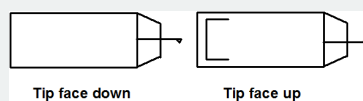

Figure 9.2.8 Schematic views of the AFM tip.
1. Mount a tip using the appropriate fine tweezers. Use the tweezers carefully to avoid possible misalignment. Work on a white surface (a piece of paper or a paper towel) so that the cantilever can be easily seen. The delicate part of the tip the cantilever is located at the beveled end and should not be handled at that end (shown in Figure 9.2.8). The tips are stored on a tacky gel tape. Use care, as dropping the tip will break the cantilever. Think carefully about how you approach the tip with the tweezers. Generally gripping it from the side is the best option. Once the tip is being held by the tweezers it needs to be placed in the tip holder clamp. With one hand holding the tweezers, use the other hand to open the clip by pressing down on the whole holder while it is lying on a flat hard surface. Once the clip is raised by downward pressure insert the tip (Figure 9.2.9a). Make sure the tip is seated firmly and that the back end is in contact with the end of the probe groove, there is a circular hole in the clamp. When the clamp holds the tip the hole should look like a half moon, with half filled with the back straight end of the tip. The groove is larger than the tip, so try to put the tip in the same place each time you replace it to improve reproducibility.